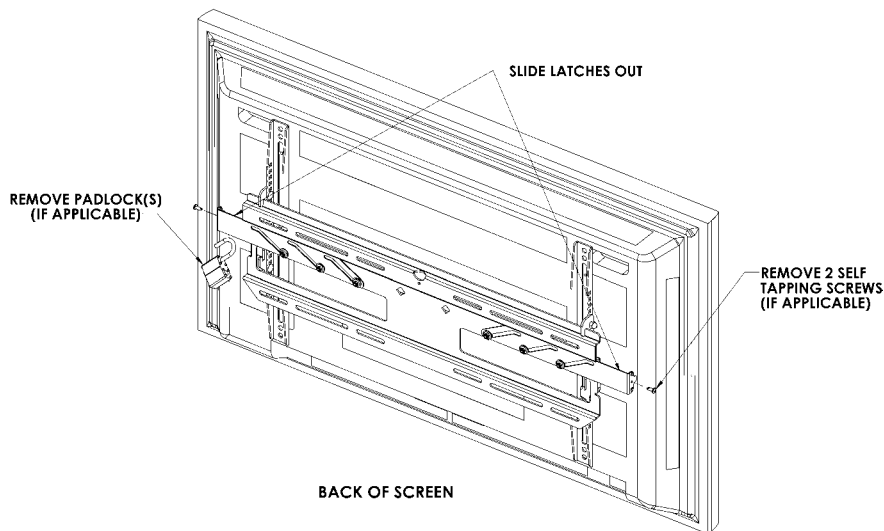

Figure 10. Remove Security Hardware
2. Slide the security latches out on both sides to disengage the display from the wall plate (see Figure 10).